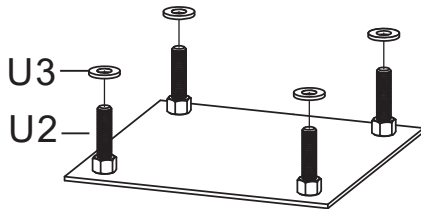

FIGURE 1A
- A. Slide a 16mm Thick Washer (U3) over each of the J-Bolts(U2) as shown in FIGURE 1A.